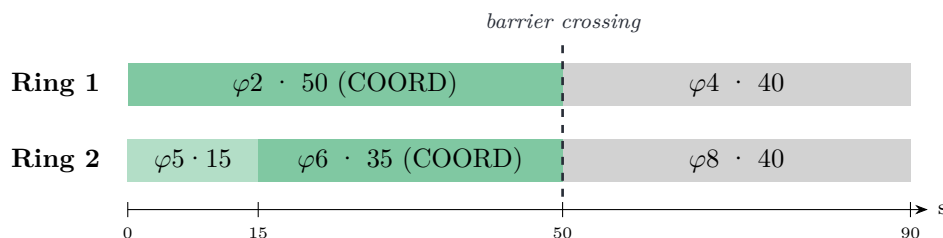

Figure 9: The same plan as Figure 8 as ring timelines. ϕ_5 is forced off at 15s and ϕ_6 comes up; both rings cross to the side street together at 50s.
2. **Match concurrent groups across rings** so companion phases open together: in Figure 9, $\phi_5 + \phi_6 = \phi_2 = 50$ and $\phi_8 = \phi_4 = 40$. Mismatched groups make the rings hit the barrier at different times, and one direction sits dark waiting.